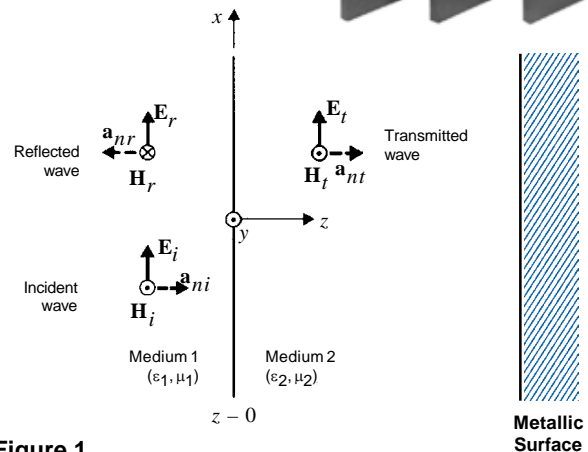

Figure 1
The basic physics of operation for any planar electromagnetic absorber involves fundamental concepts as shown in Figure 1. When an electromagnetic wave traveling through free-space encounters a different medium (at  $Z=0$ ), the wave will be reflected, transmitted, and/or absorbed. It is of course, the magnitude of the reflected signal which is usually of interest in this application. For ferrite tiles, the thickness is tuned so that the relative phases of the reflected and exiting wave cancel to form a resonant condition. This resonant condition appears as a deep "null" in the return loss response. This resonance is also a function of the frequency dependent electrical properties of the ferrite material such as relative permeability ( $\mu_r$ ) and permittivity ( $\epsilon_r$ ) which interact to determine the reflection coefficient ( $\Gamma$ ), impedance ( $Z$ ) and return loss (RL) according to the following formulas: